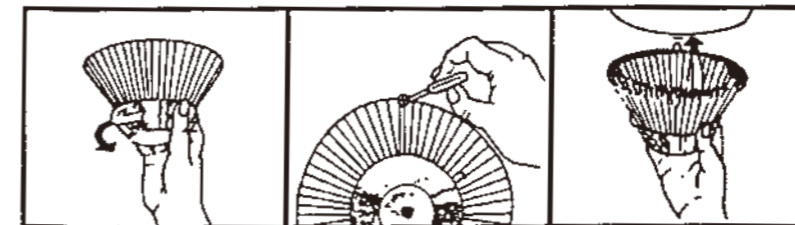

Fig. 22
- When installing the vane guard, place one ear of the guard in the rear hole of the middle support plate, and then match the other ear with the groove on the other side of the plate. Use a slot head screwdriver to screw the vane guards on the plate.(Fig.22)